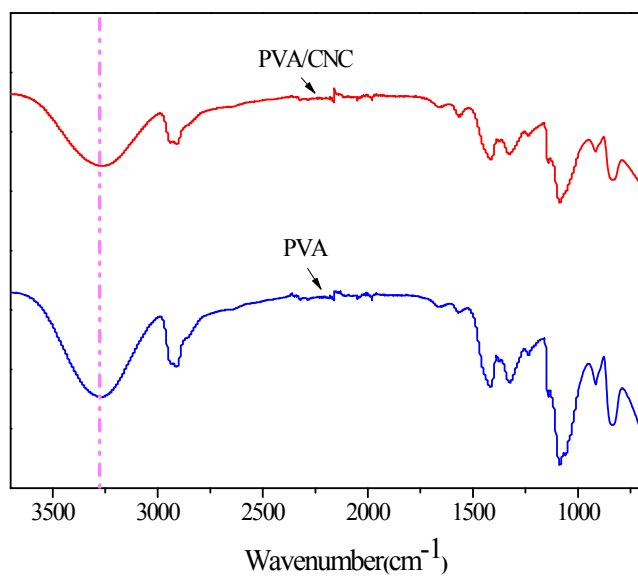
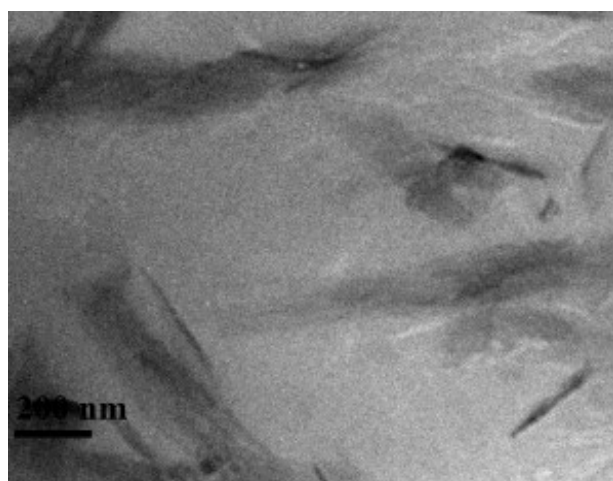

Fig. 2. FT-IR spectra of PVA and PVA/CNC.
Fig. 3. The TEM image of CNC.
PVA/CNC/P(NIPPAm-co-AA) hydrogels (Fig. 1a) of increased CNC loading showed an increase in the tensile stress (TS) and elongation at break (EB). The reinforcement effect of CNC is evident at 0.01 (CNC/PVA w/w) loading of CNC, implying the contribution of CNC percolation, which is important in the reinforcement process. At low CNC loadings, the reinforcing effect of CNC is a direct result of the random orientation of the CNC and their interaction with PVA (as show in Fig. 2, compared with PVA, the peak between 3700 and 3100 cm^{-1} for PVA/CNC hydrogels shifted to lower frequencies), as well as the rigidity of the rod-like CNC structure (as show in Fig. 3). When the CNC content is above 0.01 (CNC/PVA w/w), the values of the TS and EB of the PVA/CNC/P(NIPPAm-co-AA) did not changed significantly, most likely due to CNC agglomeration in the PVA polymer matrix. Aggregation of CNC takes place at higher loadings and the structure becomes clustered. As a result, the contribution of CNC to TS and EB was negligible. However, Fig. 1b displayed aggregation of CNC didn't reduce the compressive strength of the hydrogel, this may be related to the orientation of the CNC under compressive stress.